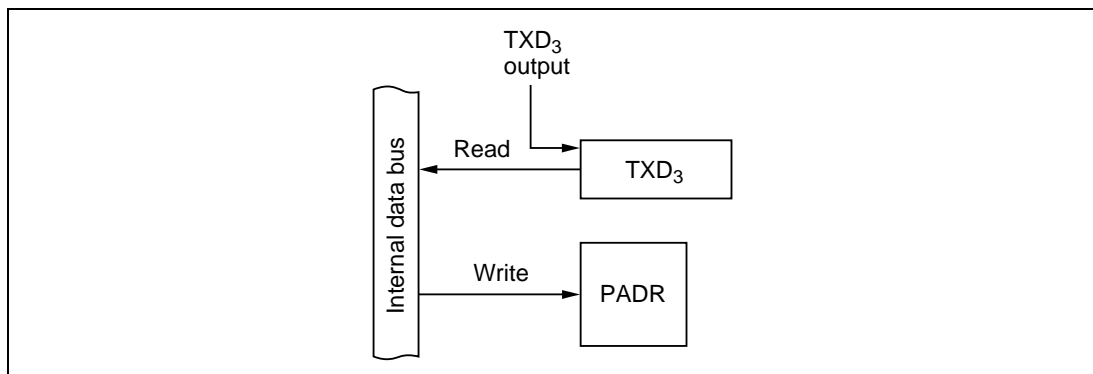

Figure 10-70 TXD₃ Output (Modes 1, 2, 4, 6, and 7)
(8) TXD₃ Output (PA₆: Modes 1, 2, 4, 6, and 7): Figure 10-70 shows a block diagram illustrating the TXD₃ output function. Table 10-53 indicates register read/write data. When PA₆ is used for TXD₃ output, the value written in PADR is ignored, but PADR can be read to monitor the level at the TXD₃ pin.